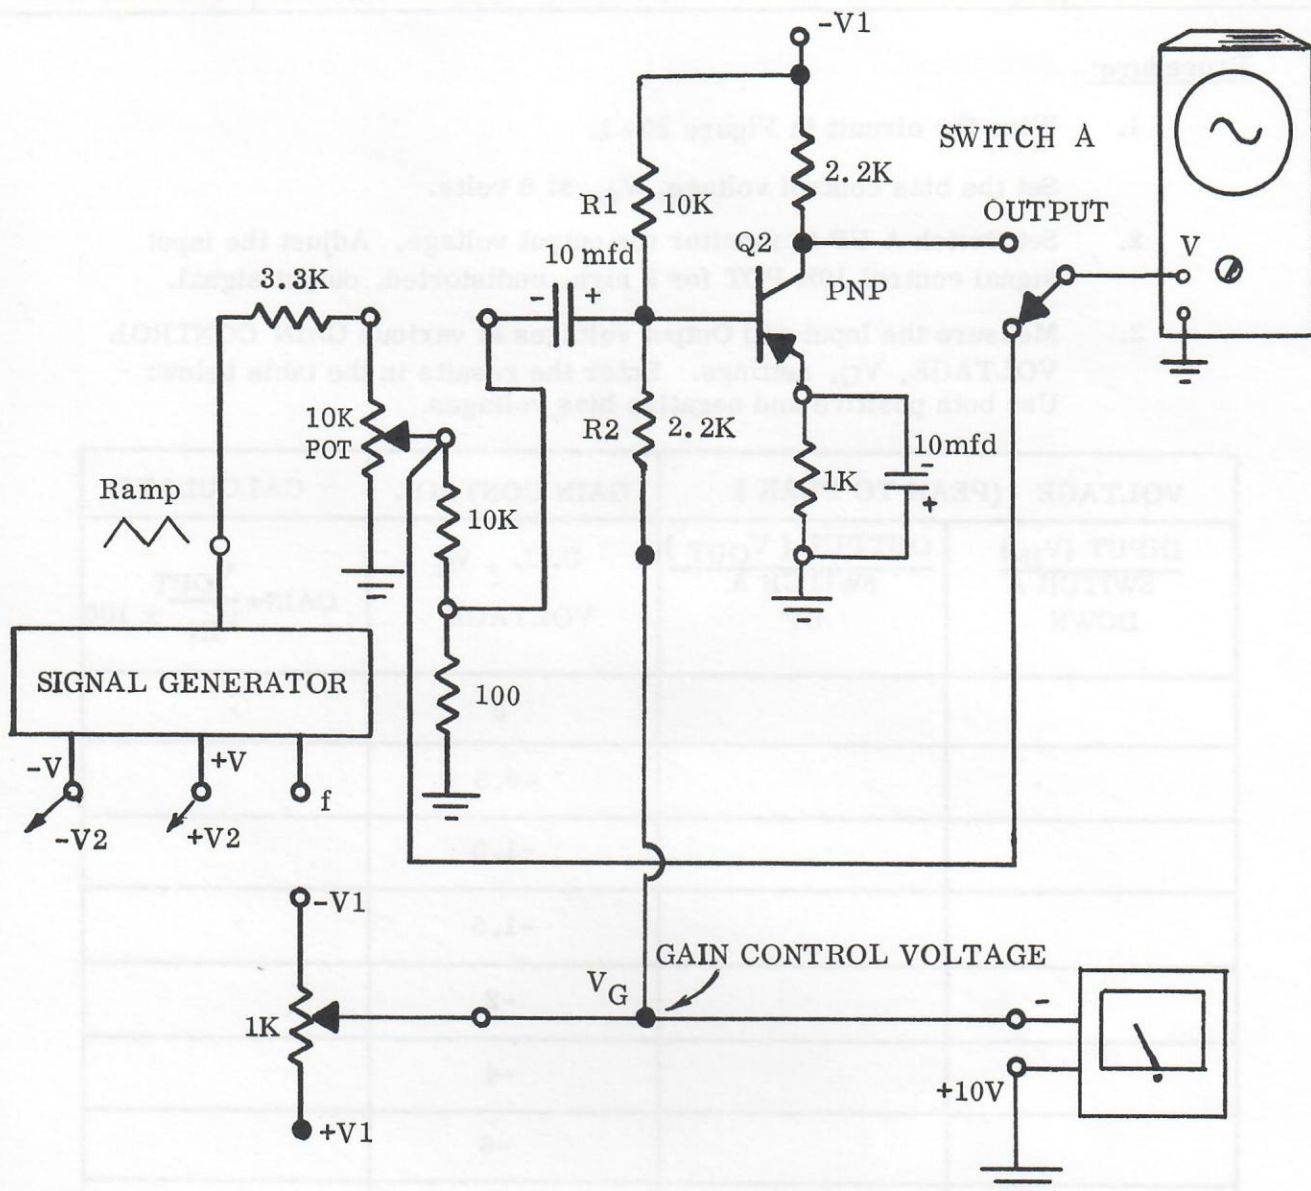

Figure 20 - 1 VARIABLE GAIN AMPLIFIER - EXPERIMENT
1. Wire the circuit in Figure 20 - 1.